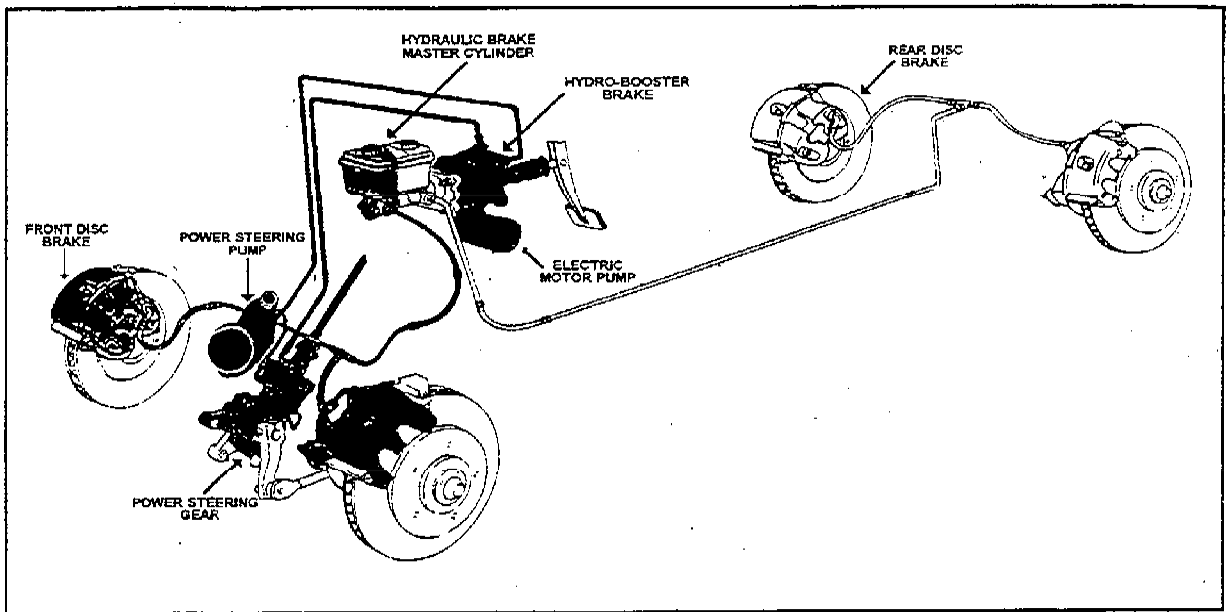

Fig. 7-4. Typical Power Steering System For Medium Duty Vehicle
(1) Figure 7-4 illustrates a typical power steering system for a medium duty vehicle showing a single hydraulic pump that supplies both the steering and the brake systems.